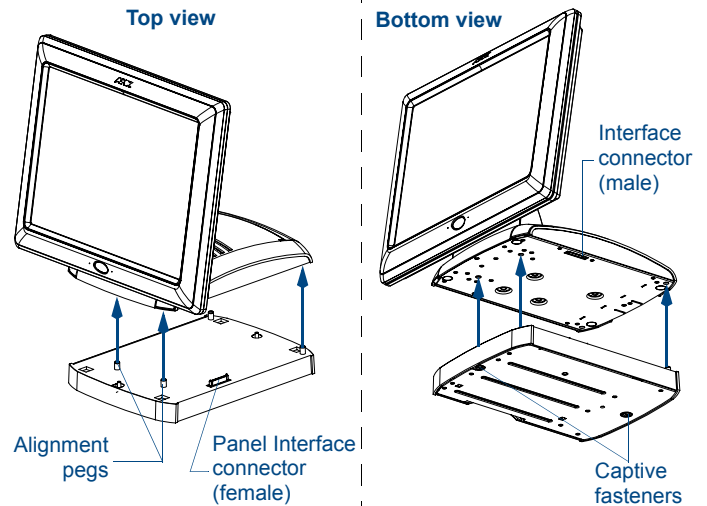

FIG. 3 NXA-BASE/B shown aligning with NXT panel
4. Carefully place the Modero panel over the base alignment pegs (FIG. 3). These pegs assist in aligning the panel to the base.